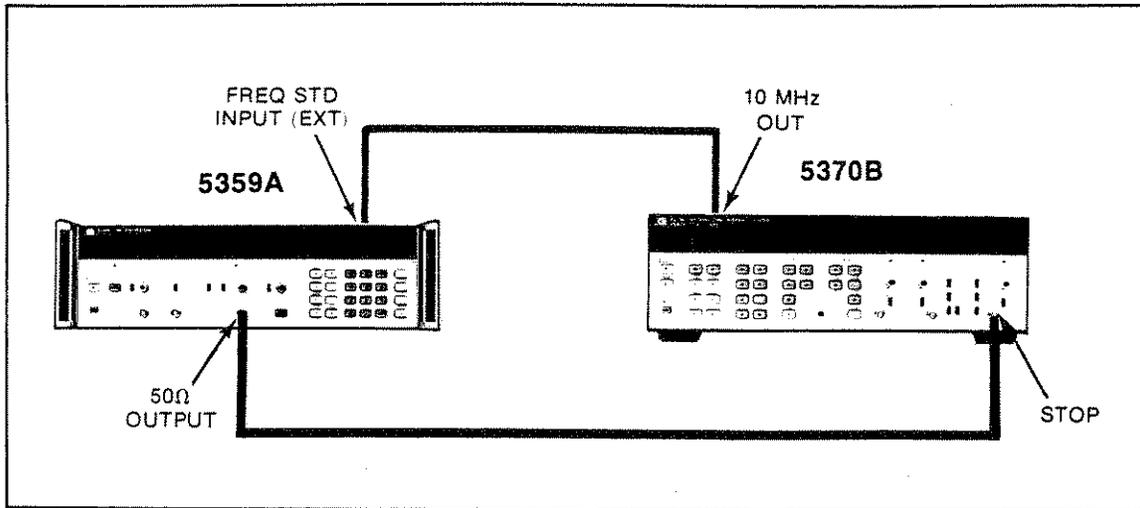

Figure 4-2. Setup for PERIOD Performance Test
3. Connect the 5359A and 5370B as shown in Figure 4-2.